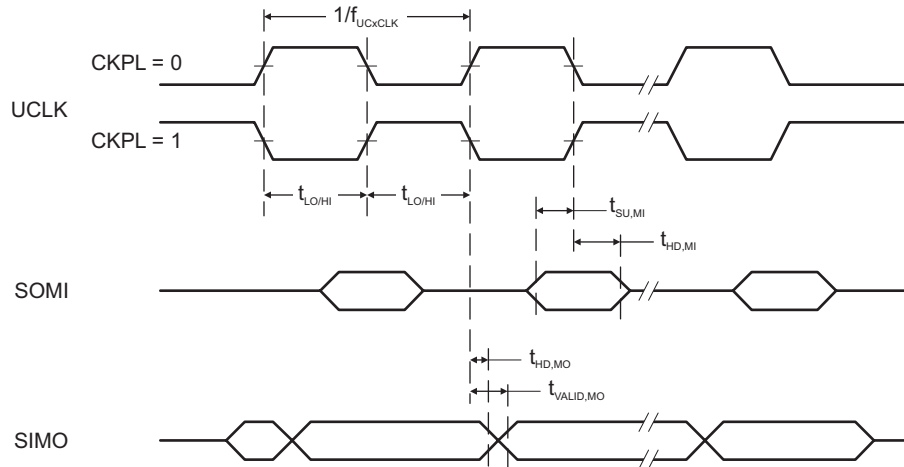
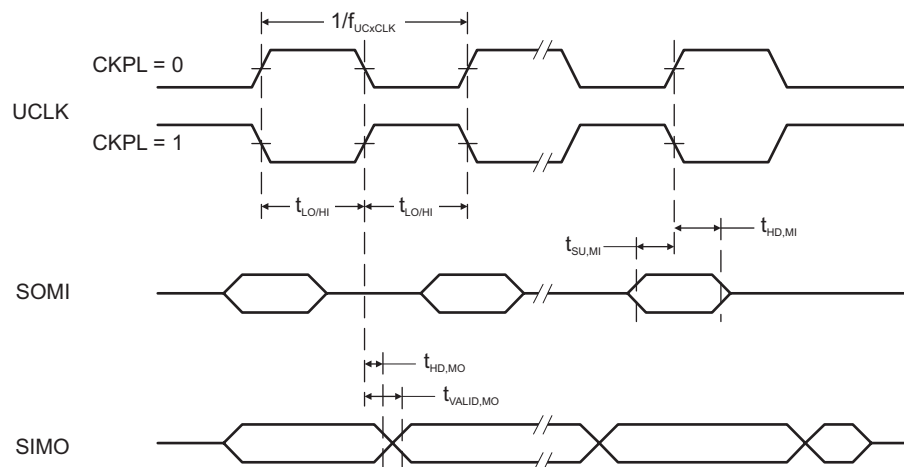

Figure 5-14. SPI Master Mode, CKPH = 0
Figure 5-15. SPI Master Mode, CKPH = 1
over recommended ranges of supply voltage and operating free-air temperature (unless otherwise noted)(1) (see Figure 5-14 and Figure 5-15)
- (2) Specifies the time to drive the next valid data to the SIMO output after the output changing UCLK clock edge. See the timing diagrams in Figure 5-14 and Figure 5-15.
- (3) Specifies how long data on the SIMO output is valid after the output changing UCLK clock edge. Negative values indicate that the data on the SIMO output can become invalid before the output changing clock edge observed on UCLK. See the timing diagrams in Figure 5-14 and Figure 5-15.